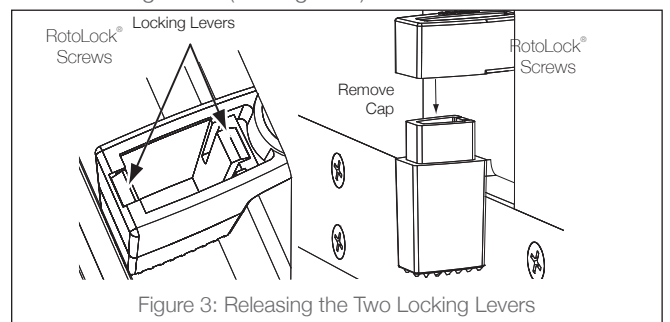

Figure 3: Releasing the Two Locking Levers
6. When installing into double drywall or other thicker wall materials, you may need to remove part of the two-piece toggle feet. Use a small screwdriver to gently release the two locking levers (see Figure 3).